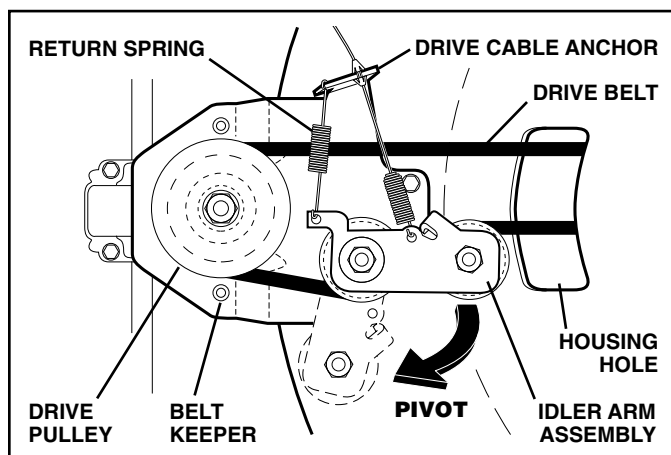

FIG. 16
3. Remove drive cable from anchor, then detach it and return spring from idler arm assembly (See Fig. 16).
9. Install new drive belt into idler arm assembly, then around the drive pulley. Be sure belt is inside of belt keepers (See Fig. 16).